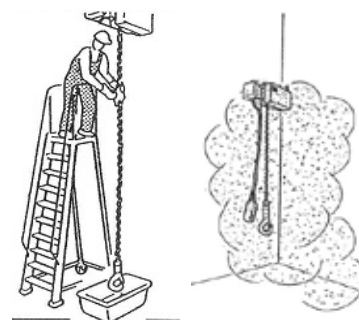

fig.87
6. Wash the entire length of the chain, starting from the top, with the brush and kerosene, taking care to remove any type of dirt, especially dust, which becomes a real abrasive. (fig.87)
This operation must be carried out weekly if the hoist is installed in very dusty environments with aggressive atmospheres. (fig.87)